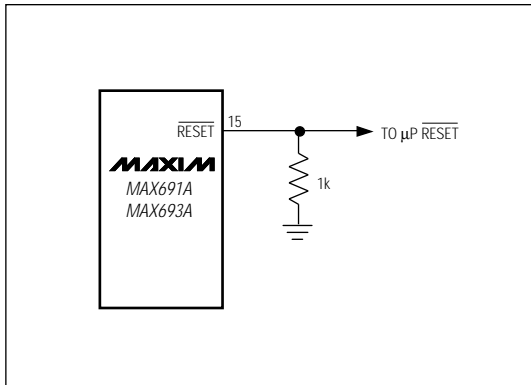

Figure 1. Adding an external pull-down resistor ensures  $\overline{RESET}$  is valid with  $V_{CC}$  down to GND.
guaranteed to be valid down to VCC = 1V, and an external 10kΩ pull-down resistor on RESET insures that it will be valid with VCC down to GND (Figure 1). As VCC goes below 1V, the gate drive to the RESET output switch reduces accordingly, increasing the rDS(ON) and the saturation voltage. The 10kΩ pull-down resistor insures the parallel combination of switch plus resistor is around 10kΩ and the output saturation voltage is below 0.4V while sinking 40μA. When using a 10kΩ external pull-down resistor, the high state for RESET output with VCC = 4.75V will be 4.5V typical. For battery voltages ≥ 2V connected to VBATT, RESET and RESET remain valid for VCC from 0V to 5.5V.